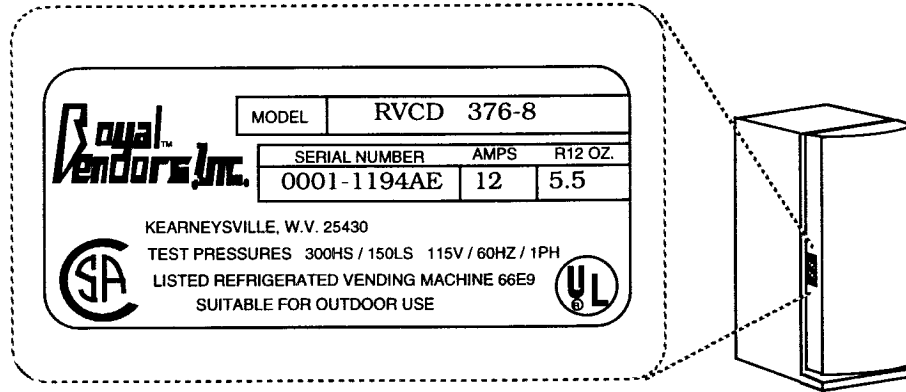

fig. 1a
**VENDOR IDENTIFICATION** - Your vendor can be identified by the serial plate which is mounted on the outer left side of the vendors main door (fig. 1a). The serial plate gives valuable information which is necessary when ordering parts or calling for technical service.